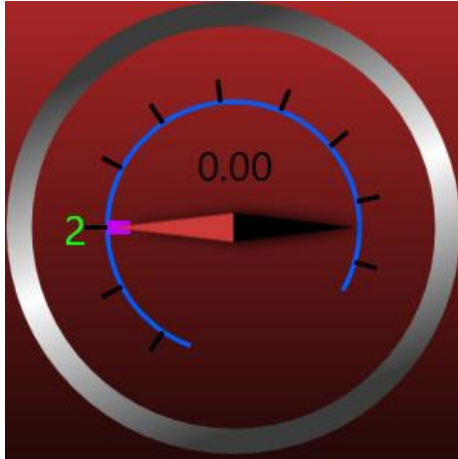

Figure 6-2. CustomTickLine Example
**IsEnabled.** Boolean property, if which one is true, the value indicator of a gauge will show the current value, otherwise, the value indicator will not shows the value changes, see Figure 6-2.